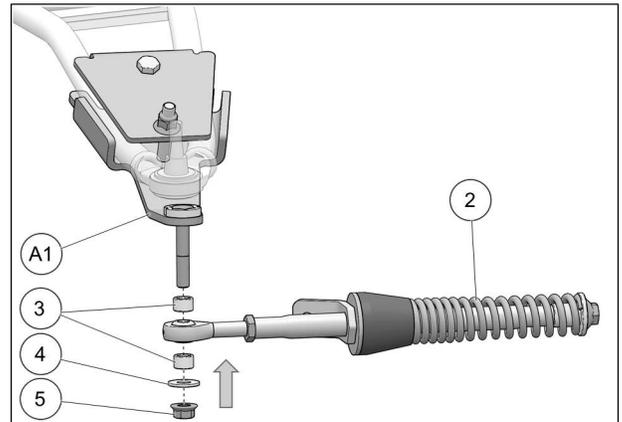

Fig. 22
9. Attach the stabilizing rod (2) to the anchor bracket (A1), using the two spacers (3), washer (4), and nut (5). Torque to 70 Nm [52 lb•ft]. Refer to Fig. 22